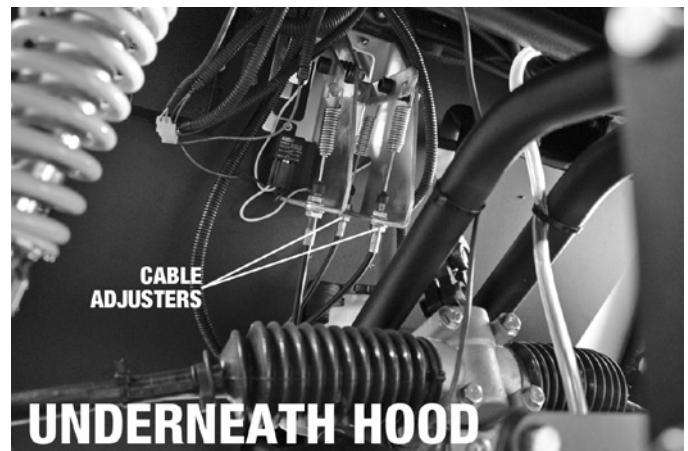

figure 7.3
2. Loosen the cable adjusters behind the dash board. (figure 7.3)